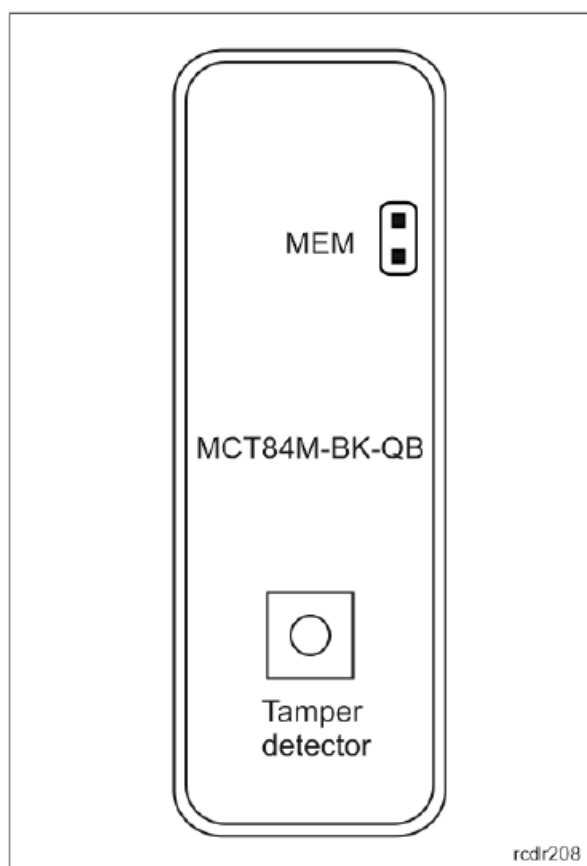

Fig. 4 Programming jumpers
Built-in tamper (sabotage) detector enables detection of unauthorized opening of the device's enclosure as well as detachment of the enclosure from the wall. The detector is internally connected to the terminal's input. It does not require low-level configuration or any additional installation arrangements, but it is essential to mount the front panel in such a way that the tamper detector (fig. 4) would firmly press the back panel. The detector requires high-level configuration which consists of the assignment of the function [133] Tamper Toggle on the level of a Main Board of a controller in the VISO software navigation tree.
- The front panel should be attached in such a way that the tamper detector (fig. 4) would firmly press the back panel.
In the RACS 5 v2 system the reader can be installed at the site without previous configuration. According to the AN006 application note, its address and other settings can be configured from VISO v2 management software, and during such configuration, access to its service contacts (fig. 4) is not required.
- 2. Remove the jumper from MEM contacts (fig. 4) if it is placed there.